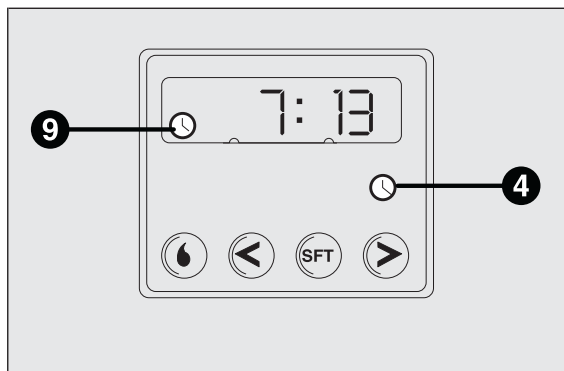

fig. 59
- ☐ Press button 4: the display and warning light 9 will switch on fig. 59;
Reading the current time fig. 59